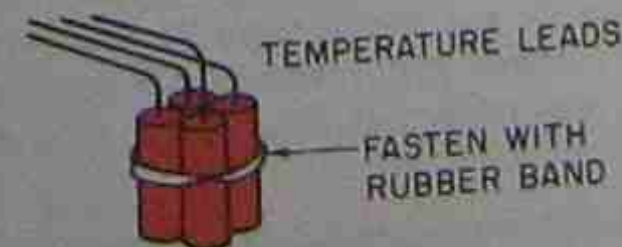

Figure 9-8. The four leads to the temperature tester are fastened at the ends so that they can all be submerged in water at the same time.
1. Fasten the four leads together as shown in Figures 9-8 and 9-9. Something solid can be fastened with them so that they can be stirred in ice and water.